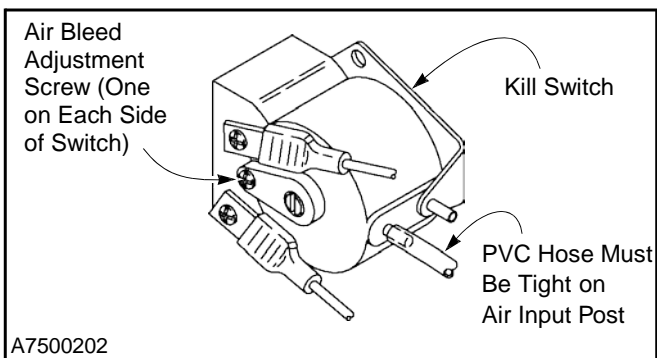

Figure 32
2. Make sure the clear PVC hose is tight on the air input post so that air leakage cannot occur and vibration will not cause the hose to fall off. Also make sure the hose is not kinked. (See Figure 32)
3. The air bleed has been set at the factory and should not require adjustment. If adjustment is necessary, turn the air bleed adjustment screws located on the front and back of the switch fully clockwise — but do not overtighten. Then turn each screw back (counterclockwise) one full turn. (See Figure 32)